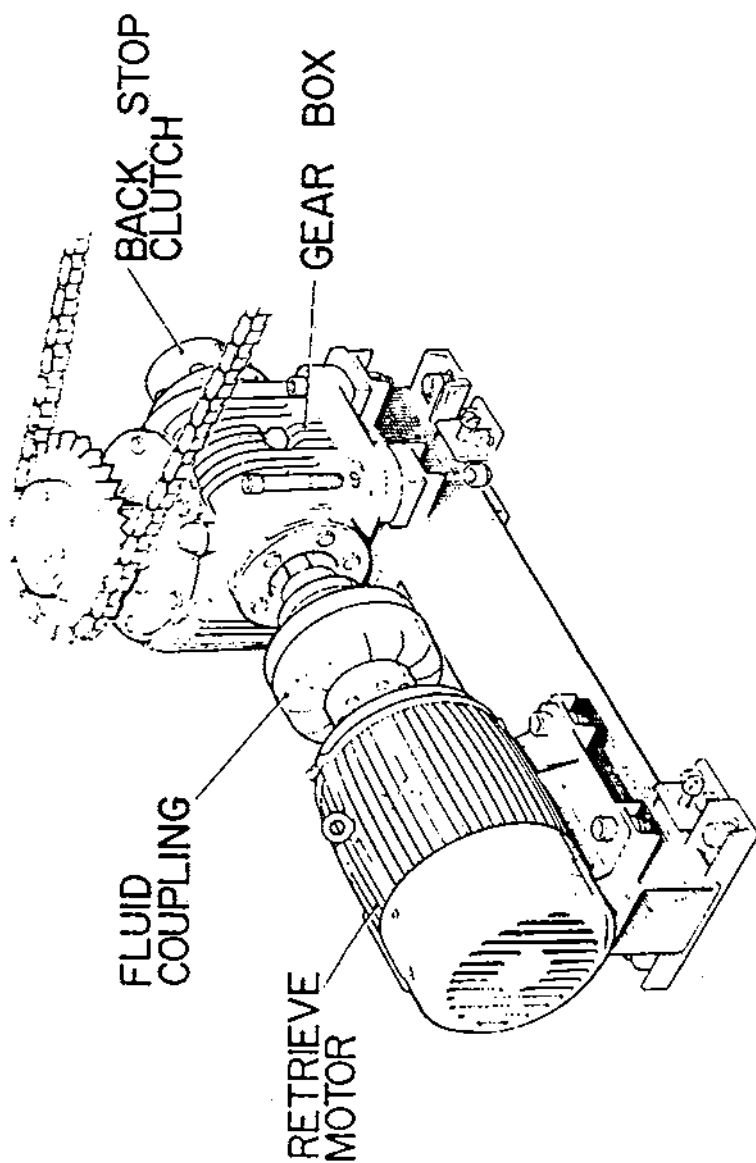

Figure 3. The retrieve drive assembly.
d. The retrieve drive assembly. The tapes and hookcable are retrieved and pre-tensioned by a 15 hp electric motor. Figure 3 shows the retrieve drive assembly. It includes:
(1) A fluid coupling designed to slip when the tension in the system reaches 1,200 lb.
(2) A backstop or one way clutch which retains system tension when the motor stops running.